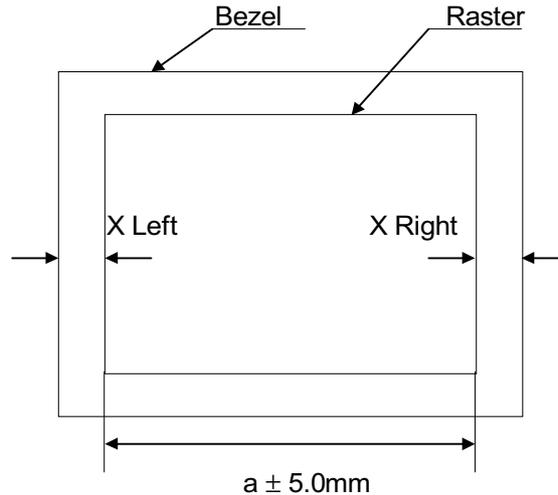

Fig. 2-1 Horizontal Raster Centering
- 1) Open Menu (S),TAG2 "SHORT / TALL" "DOWN / UP", and adjust "+", "-" SW so that the vertical size and position becomes the following. (Refer to Fig. 2-1.)